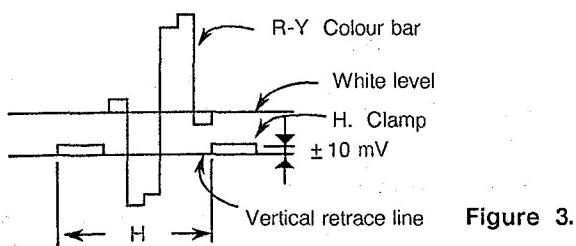

Figure 3.
6. Adjust LM03 so that the white level in picture part reaches to the vertical retrace line. (See figure 3.)
- DVM..... Connect to the resistor R171 (@ in figure 3) and ground.